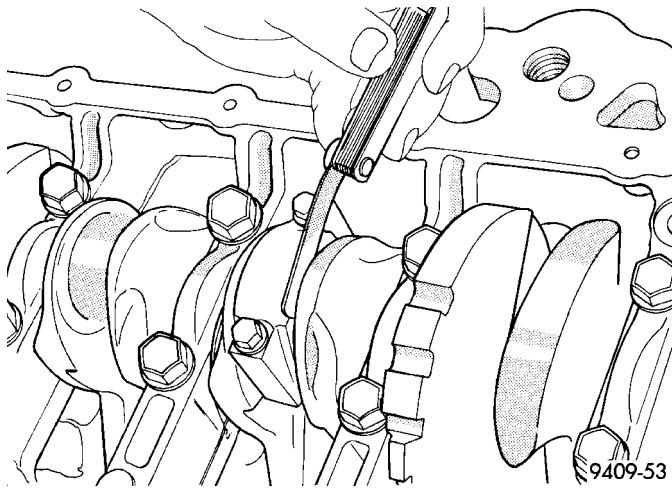

Fig. 67 Checking Connecting Rod Side Clearance - Typical
(14) Using a feeler gauge, check connecting rod side clearance (Fig. 67). (Refer to 9 - ENGINE - SPECIFICATIONS) for connecting rod side clearance.